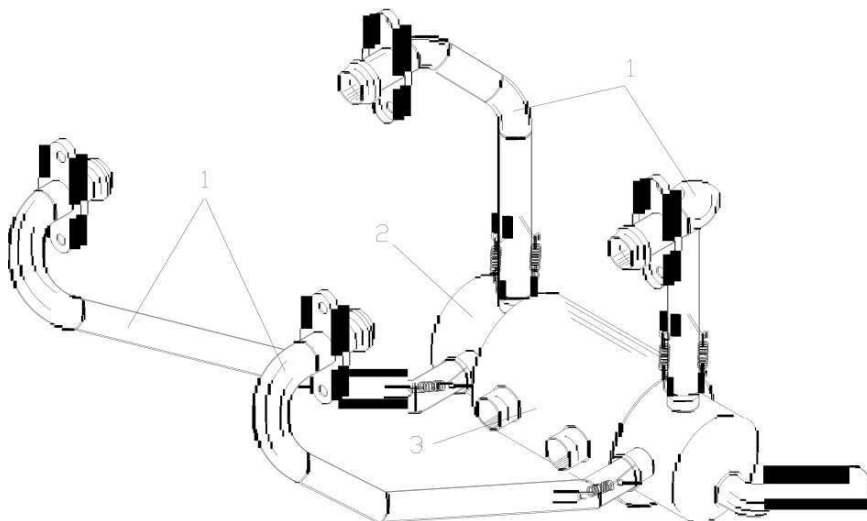

Figure 6-8 Exhaust manifold
With reference to figure 6-8, exhaust manifolds (1) are flanged to the engine and join the muffler separately (2). The muffler also works as a heat exchanger (3) for carburetor and cabin heat.